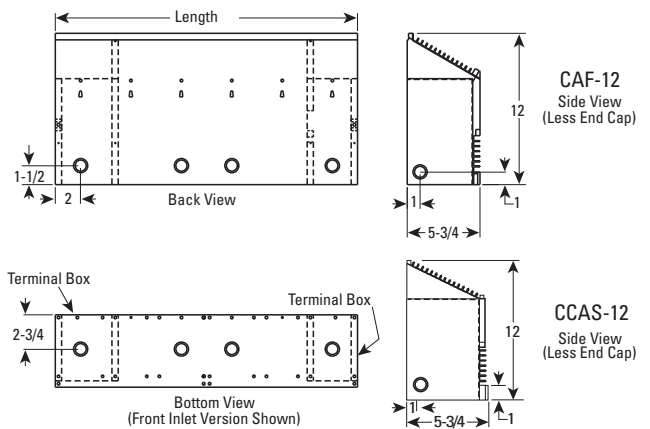

Figure 3
3. Remove all appropriate knockouts from terminal boxes, particularly terminal box end knockouts when installing continuous run heating. (See Figure 3.)
3. Service supply entry is usually made to one heater terminal box (see Figure 3) with through wiring (Factory Installed) being used for interconnection of all heaters in a continuous run installation.
4. Knockouts are provided at the back, bottom and ends of all heater backs (see Figure 3). Terminal boxes are located at both ends of every heater.